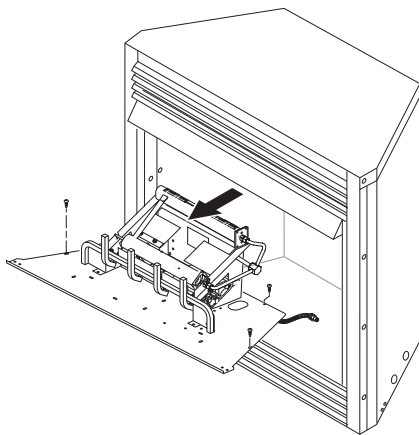

Figure 16 - Removing Log Base Assembly From Fireplace
2. Remove screws that attach log base assembly to fireplace (see Figure 16). Carefully lift up log base assembly and remove from fireplace (see Figure 16).